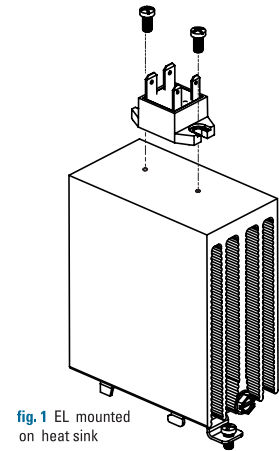

fig. 1 EL mounted on heat sink
- EL mounting slots have a diameter of 0.16 in (4.0 mm). Two screws are needed (not included) to mount the EL onto heat sink (See fig. 1). Recommended screw size is 8-32 (UNC standard) or M4 (metric).